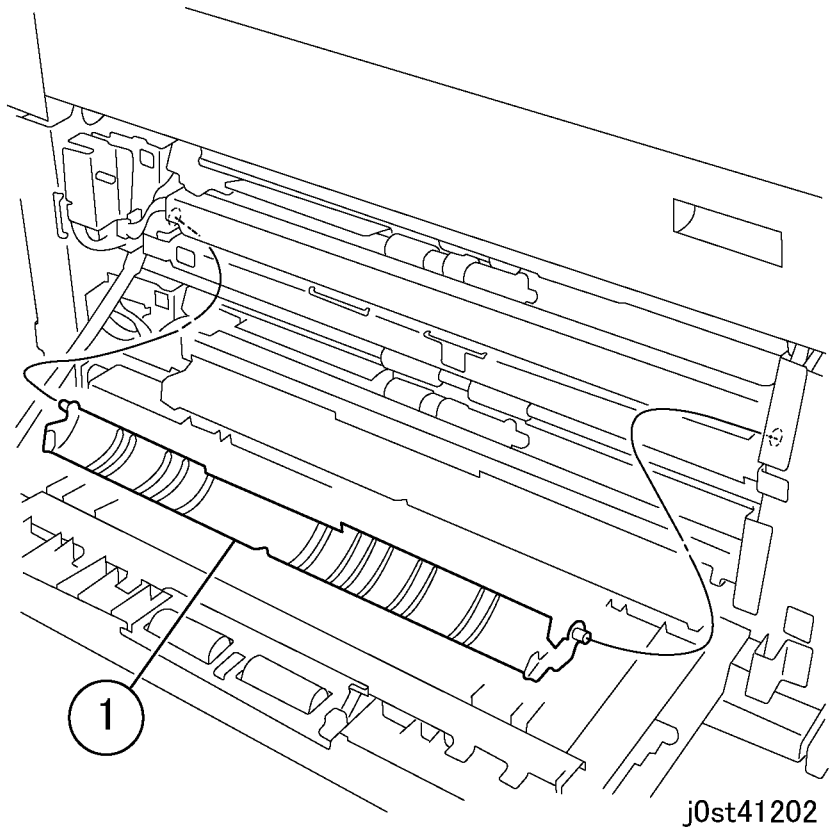

Figure 4 Removing the Feed Out Chute (j0st41202)
6. Remove the Feed Out Chute. (Figure 4)